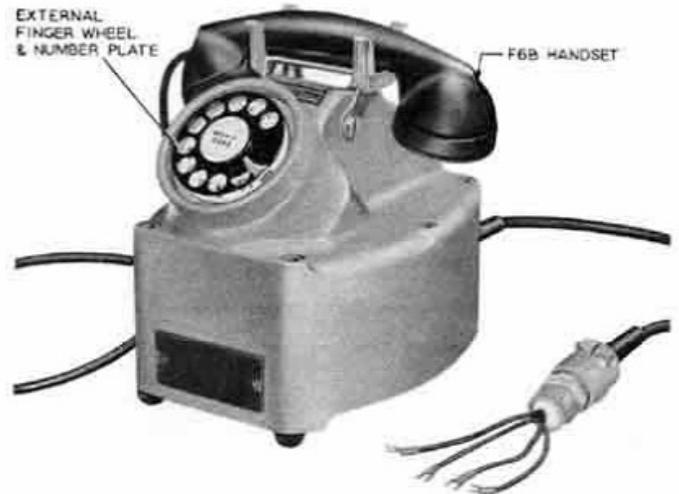

Fig. 1—KS-14476 Telephone Set
2.01 The KS-14476, L1 (dial) telephone set shown in Fig. 1 and the KS-14476, L2 (manual) set with a Crouse Hinds apparatus blank have been approved by Underwriters' Laboratories for use in the following locations:
3.02 A Crouse Hinds, type GU-1-22 conduit equipped with a CB-1124 connecting block, or approved equivalent, shall be installed at the end of the conduit, run near the telephone set for connecting the telephone set cord to the line wires. The cord bushing screws directly into a threaded opening in this conduit. (See Fig. 1.)